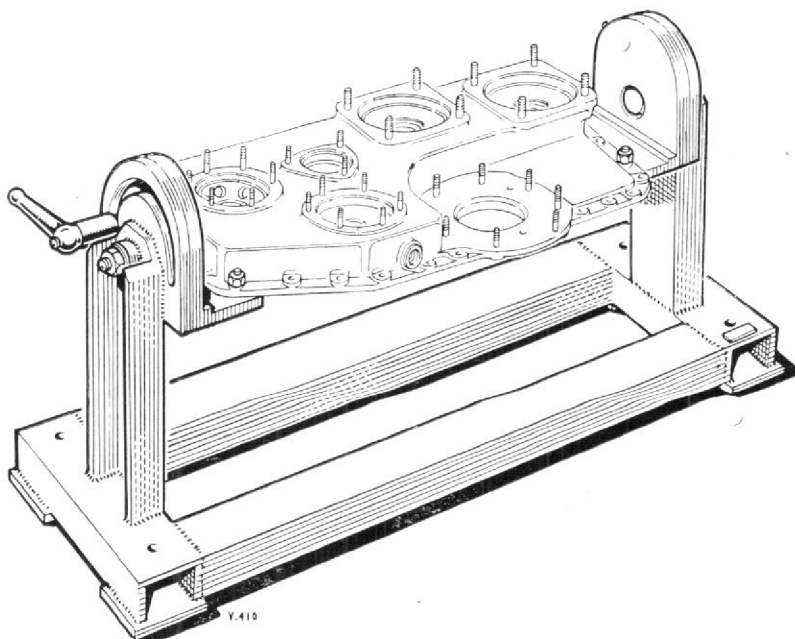

Fig. 1. Top wheelcase bolted to dismantling-and-rebuilding stand T.74978.
1. Using four slave bolts, washers and nuts, assemble the top wheelcase to dismantling-and-build stand T.74978, Fig. 1.